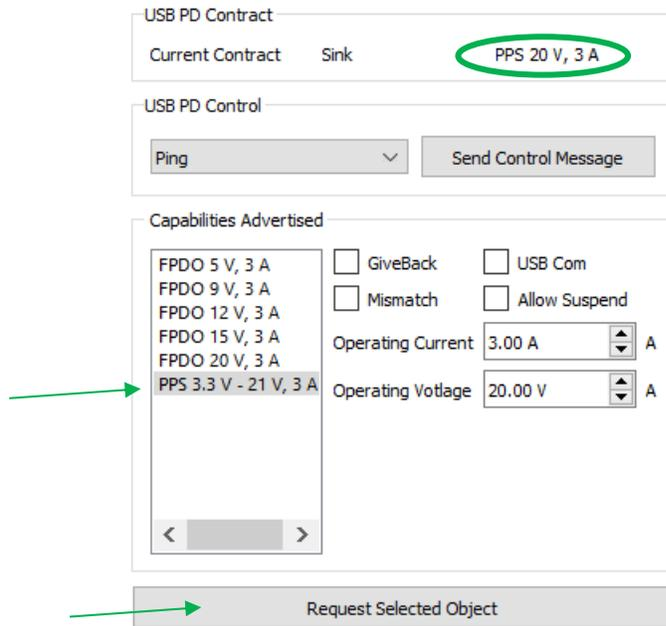

Figure 8 - Select PPS object and verify new contract
7. Select the “PPS 3.3 V – 21 V, 3 A” power object, click the Request Selected Object button, and verify that the Current Contract shown in the USB PD Contract window changes to match the selection requested. See Figure 8.